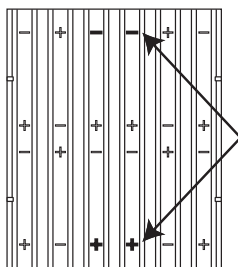

Figure 18. Polarity
2. Replace the (12) AA 1.5 V batteries. Observe polarity (Figure 18).